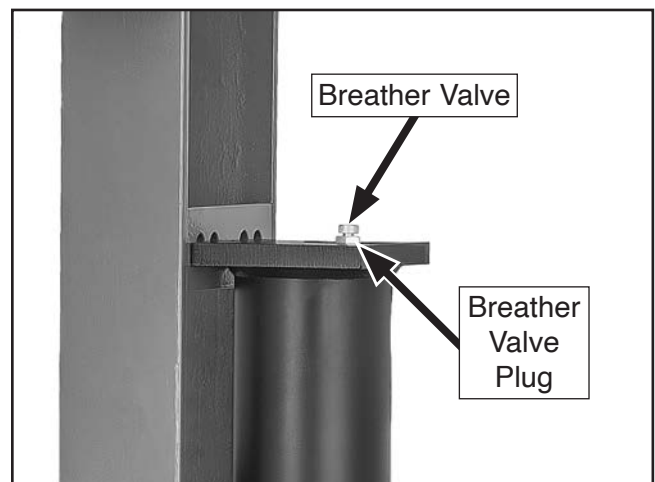

Figure 30. Location of breather valve plug.
2. Remove breather valve plug (see **Figure 30**) and verify hydraulic oil level: